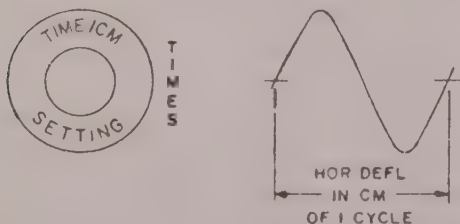

Figure 2-10. Finding the Frequency
3. Take the reciprocal of the product obtained in Step 2 (that is, divide it into one). The resulting quotient is the desired frequency or repetition rate in cycles per second. See Figure 2-10.